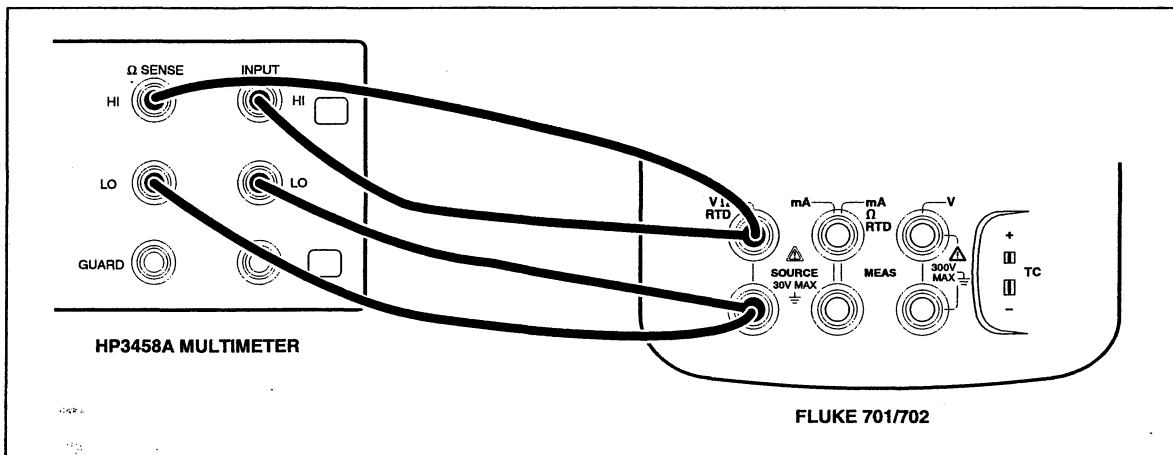

Figure 3-8. Resistance Source Verification Connections
1. Connect the UUT to the HP 3458A DMM as shown in Figure 3-8. Use a four-wire connection transitioning to two wires at the UUT.